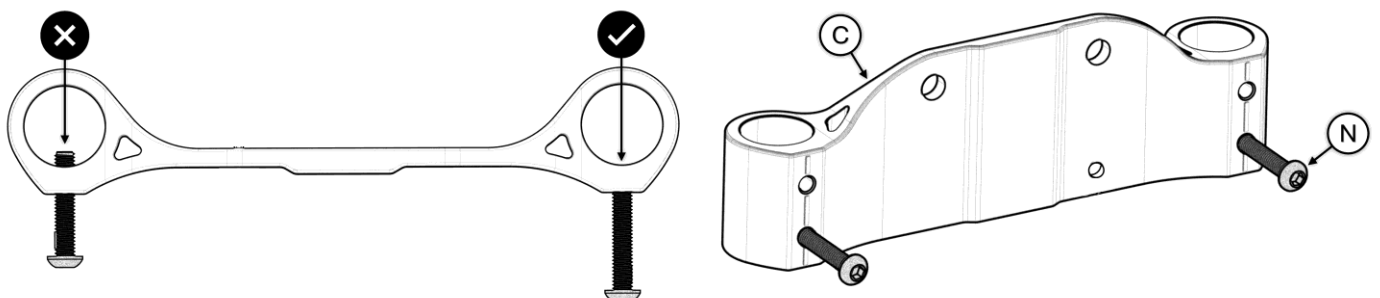

FIGURE 4
4. Partially thread Bolt **N** into **Lower** holes in Bracket **C**, as shown in *FIGURE 4*. Do not thread too far – bolt should not block assembly of Legs.